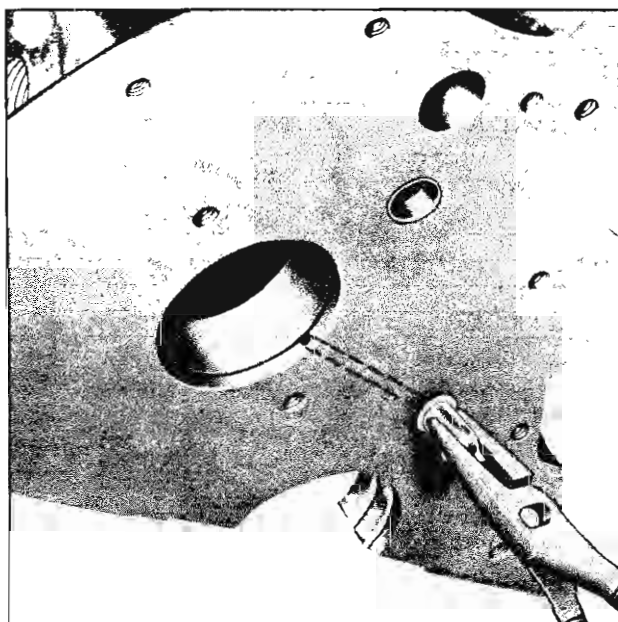

Fig. 30—Timing Gear Oil Nozzle Removal
1. Remove nozzle with pliers (fig. 30).